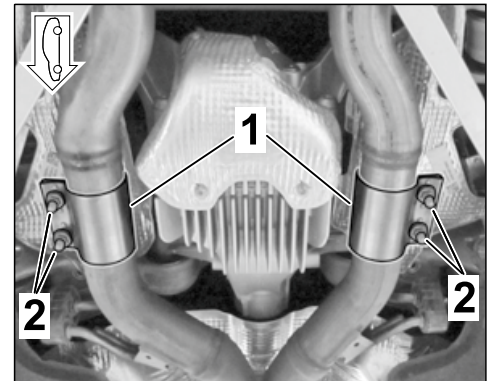

Figure 25
3.4.5 Align clamping sleeve (Ø 60 x 88, 2 x) on exhaust pipe on front muffler/rear muffler (at the left/right) so that the clamping sleeve is not touching/rubbing at any point (⇒ *Figure 25*).